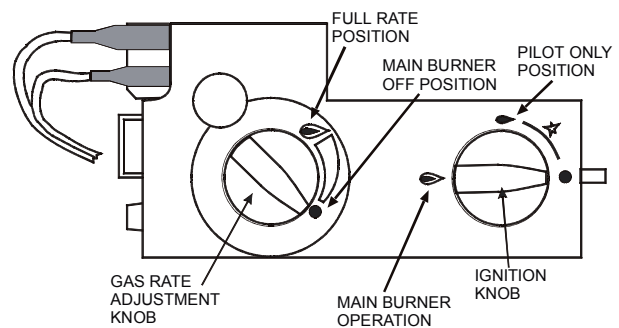

Figure 7 – Gas Valve
2. With gas available at the valve press the IGNITION KNOB (see **Figure 7**) in and turn it anticlockwise to the pilot flame position. A click of the piezo igniter will be heard and a spark will appear at the electrode. At the same time the gas will flow to the pilot burner and should be ignited by the spark. Repeat the procedure until the pilot flame is established.
5. Turn the IGNITION KNOB anticlockwise to the Main Burner Operation position as shown in **Figure 7**.